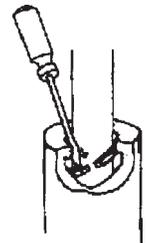

Figure 6
1. **Replace handle** with spring then pocket washer into splitting tip and **push retaining ring** with the screwdriver **one end first** (see Figure 6) **working around** slowly several times until ring is **seated or past the groove** (see Figure 2.)